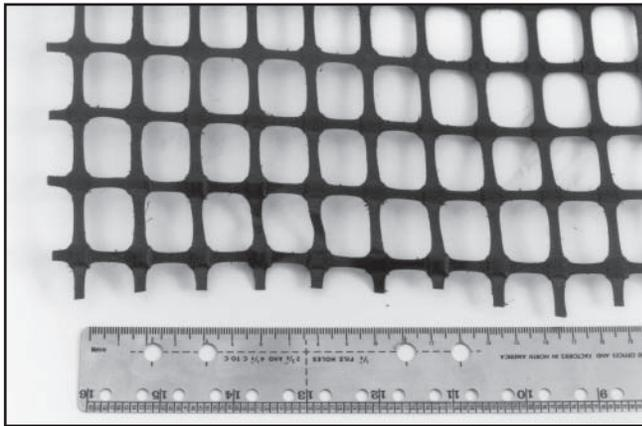

Figure 37—Geogrids are normally placed on top of a layer of geotextile to obtain separation from saturated soils.
**Geogrids** (Figure 37) are made from polyethylene sheeting that is formed into very open grid-like configurations. Geogrids are good for reinforcement because they have high tensile strengths, and coarse aggregate can interlock into the grid structure. Geogrids are normally placed on top of a layer of geotextile to obtain separation from saturated soils in wet areas.